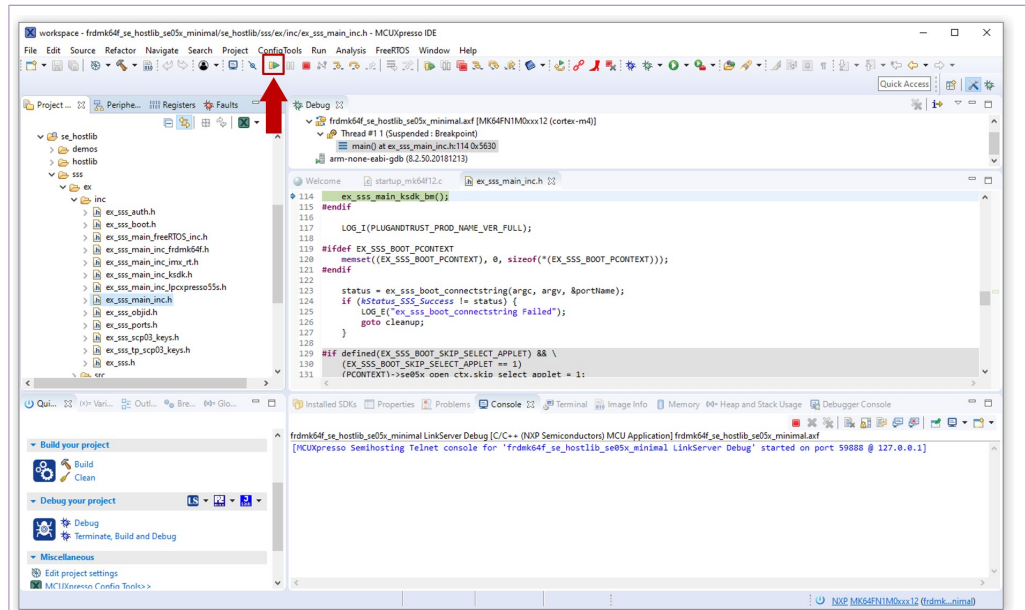

Figure 19. Run projects in MCUXpresso workspace
- When it executes, it will automatically stop in a breakpoint. Click on Resume to allow the software to continue its execution as shown in Figure 19.